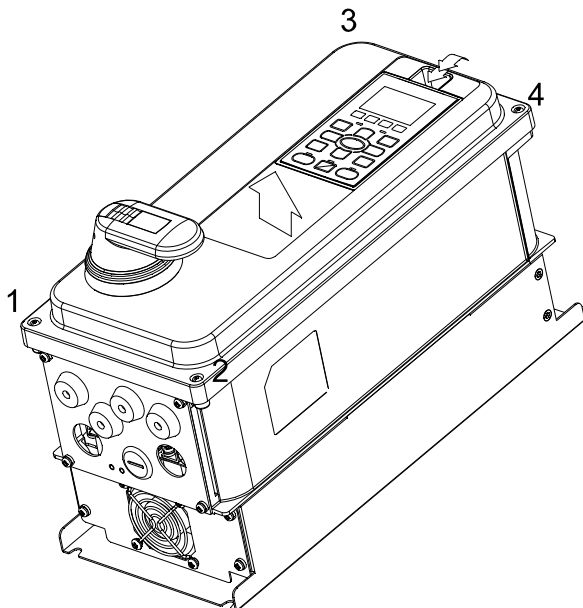

Figure 2
1. Press the hook in the top of digital keypad, and then rotate to remove the digital keypad. (Refer to Figure 2)